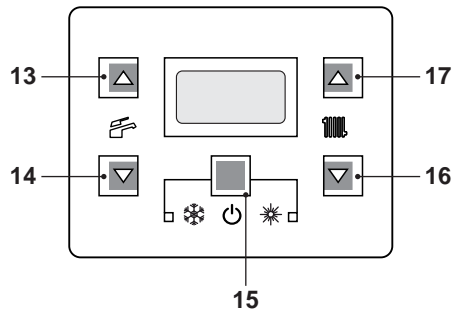
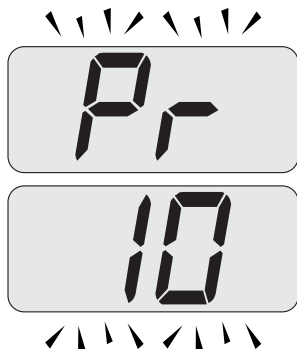

Fig. 7.31
Fig. 7.33
- Enter the "programming mode" by pressing keys 15 - 16 - 17 (Fig. 7.31) for 10 seconds at the same time until the letters **Pr** that alternate with code **01** are displayed on the LCD display, indicating that "parameter 01"(Fig. 7.32) has been activated.
- Scroll the various parameters using keys 16 or 17 until the letters **Pr** that alternate with code **10** are displayed on the LCD display, indicating that "parameter 10"(Fig. 7.33) has been activated.
- Press keys 15 and 17 (Fig. 7.31) at the same time until the value of parameter 10 (30=180 seconds) is displayed on the LCD display (Fig. 7.34).
- By pressing key 15 (Fig. 7.31) confirmation of the inserted value is obtained.
- Press keys 15 and 16 (Fig. 7.31) at the same time to exit without changing the value (return to the parameters list Fig. 7.33)
- Press keys 15 - 16 - 17 (Fig. 7.31) at the same time for 10 seconds to exit the "programming mode".